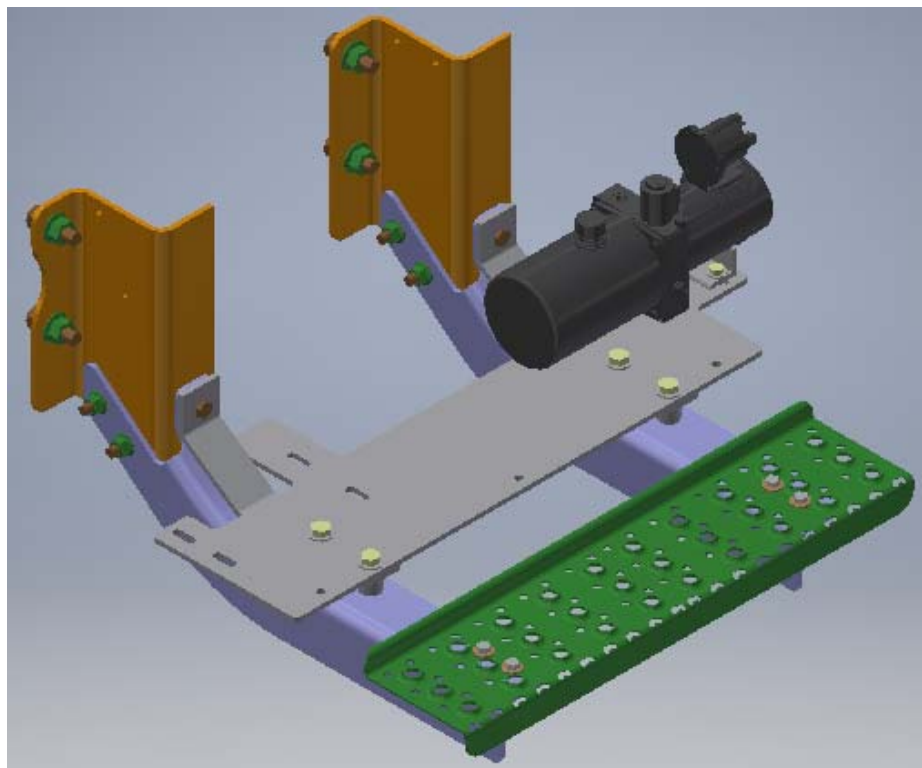

Figure 6: Brake Pump Installation
12. Optional Upfitter Switch Installation: (Figure 6)